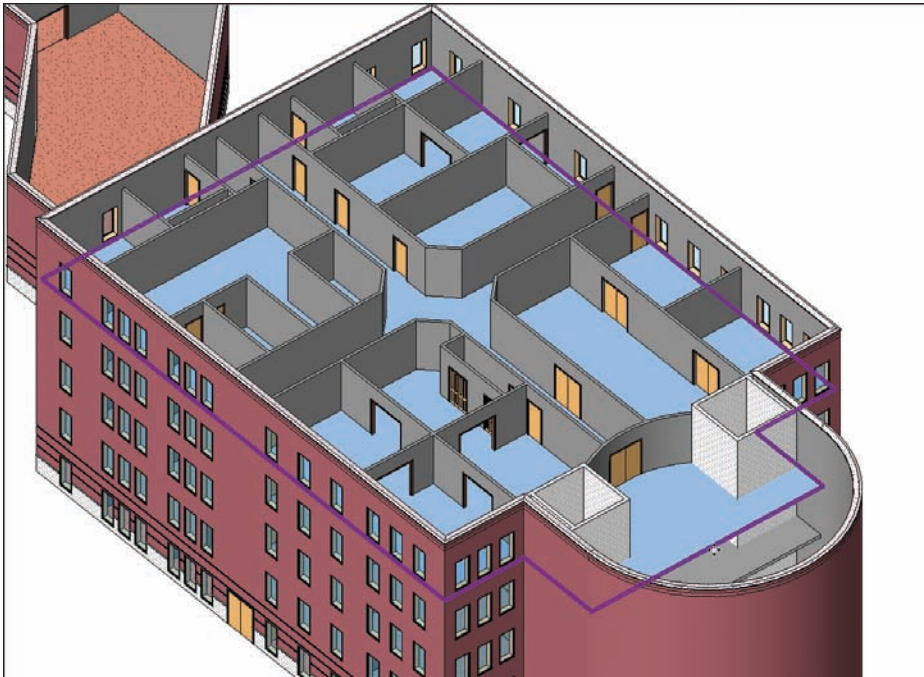

FIGURE 6.33 The fifth floor is now cutting the walls.
1. After the floors have been pasted, select the fifth-level floor, as shown in Figure 6.33.
5. Select Yes to cut the overlapping volume out of the walls. Figure 6.33 shows that the walls are now being cut by the slab.